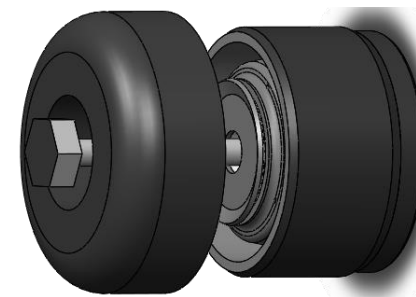

Figure 4 – '3232PE55' Bush - Models with counterbalance
**Note:** some models have a counterbalance attached to the same bolt as the bush, see Figure 4. If there is one, remove the bolt and the counterbalance first.
- Refit the outrigger arms to the diff then fit the new washers over the existing bolts, Please note that the concave side of the washer should be facing outwards, Figures 4 and 5;